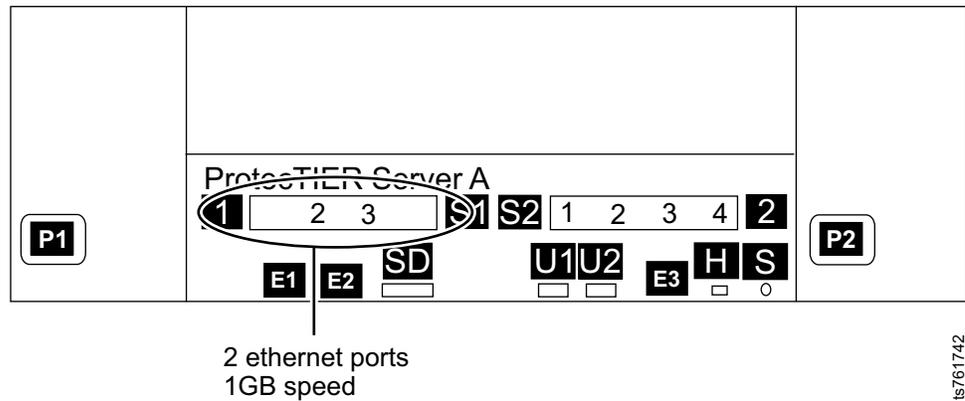

Figure 19. Customer and replication Ethernet connections for single node 1 Gb FSI configuration, Feature Code 3456
- b. Remove customer host network Ethernet connections that are labeled **1 - 3** in Figure 19. Not all of these connections might exist, depending upon the customer.